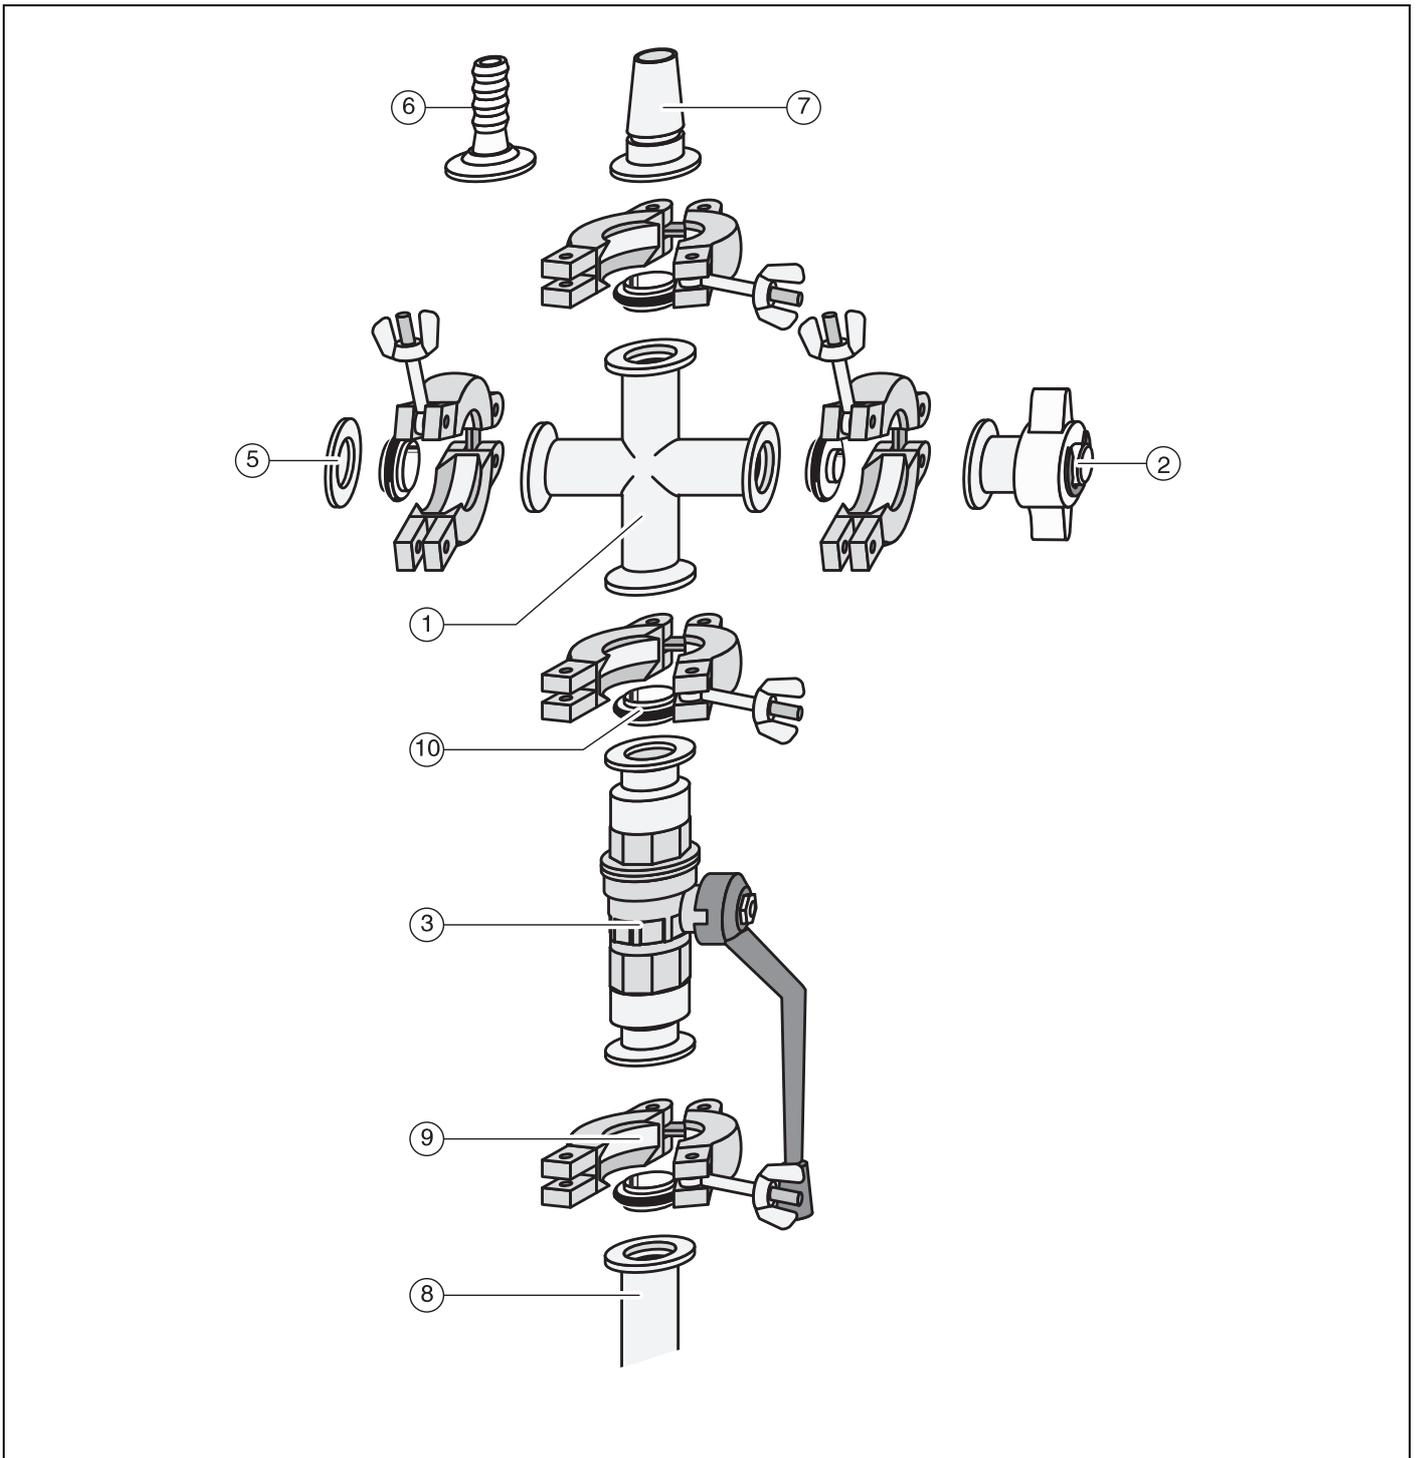

Fig. 2
Together with other vacuum components, the cross (378 015) and/or the T-piece (378 005) enable assembly of a metal adapter (see Fig. 2) for flanging onto the suction line of a vacuum pump (e.g. rotary-vane vacuum pump D 1.6 B, (378 75).
For small-flange vacuum components for narrower tube diameters, the two sizes DN 10 KF and DN 16 KF are standardized. The numbers stand for the inside diameter of the flange in millimeters. For vacuum-tight connection of the two components, a centering ring is used (378 045 or 378 040) (see Fig. 2), and this joint is secured mechanically using a clamping ring (378 050). Note that the centering rings must fit the flange dimensions; the clamping rings are universal.
For filling the recipient with a defined quantity of air or gases. Mount the elements of the adapter on the small flange on the suction side of the pump - if necessary via the lengthened intake port ⑧ - as shown in Fig. 2 in accordance with the individual